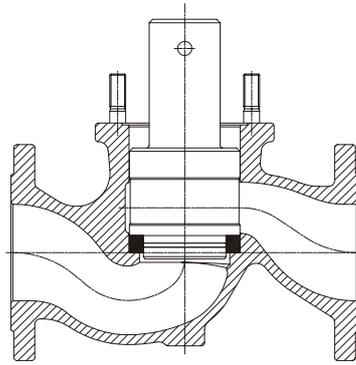
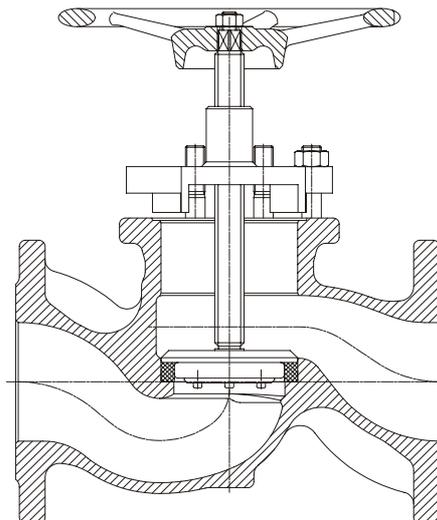

Fig. 5
Fig. 7
- Mount bottom valve ring (Pos.14) using mounting tool (see Page 11 Fig. 5 for DN 65 and 80), (Fig. 7 for DN 100 – 150 *)